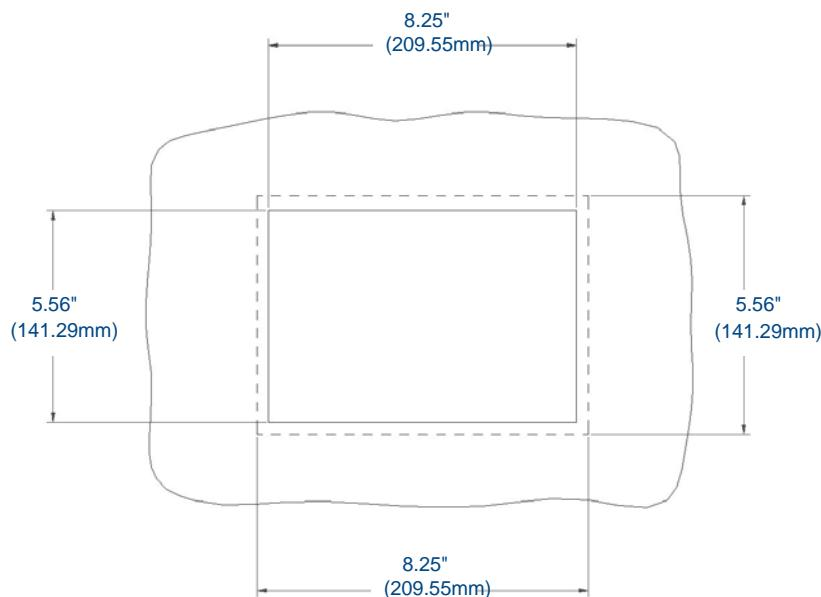

FIG. 10 Recommended cutout for plastic back box
1. Cut a hole into the wall or surface intended to hold the box. The outer lip of the box is sized 8.69 inches (220.66mm) long and 6.0 inches (152.4mm) high, so the hole should be at least 1/4" (6.4mm) smaller in each dimension (FIG. 10). Use the included MVP-WCS-52 Wall Charging Station Template (**68-5966-01**) as an aid for hole placement and measurement.